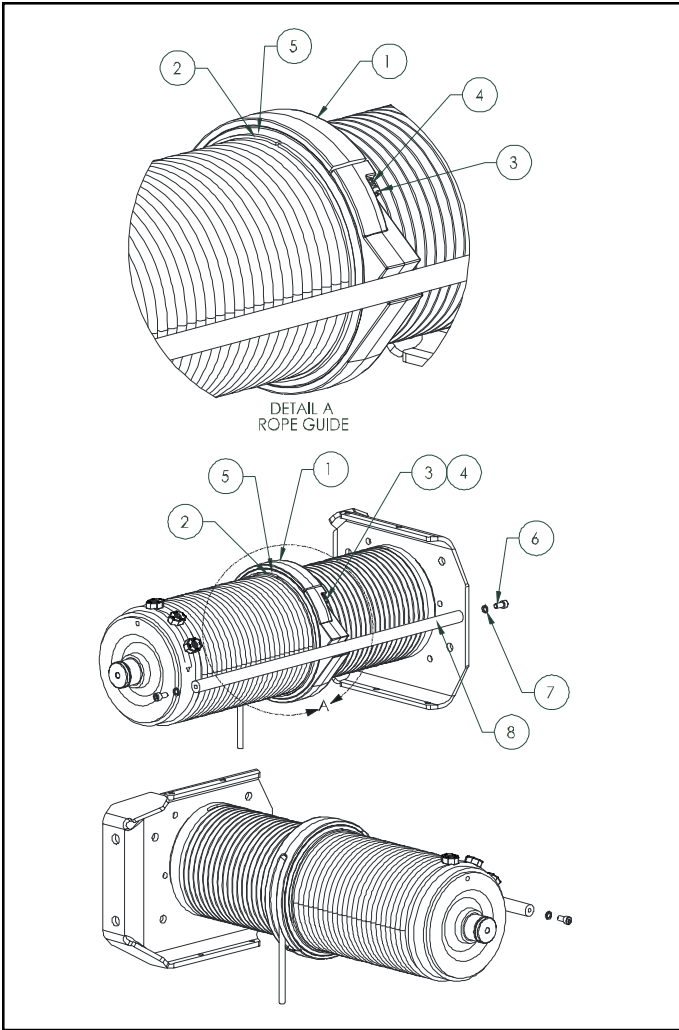

Figure 5-3a. Rope Guide Assembly ('B' & 'C' Frame)
b) **Disassembly for "B" & "C" Frames.** Refer to Fig. 5-3a. For further assistance in locating components, refer to the parts list in Section IX.
- (1) Remove socket head cap screws and lock washers (Items 6 and 7). Remove drum frame rod (Item 8).
- (2) Remove shoulder bolts (Item 3) and compression springs (Item 4). The two halves of the rope guide body (Item 1) can now be pulled off the drum separately. When reassembling be sure that the half with the rope slot is on the top half of the drum.
- (1) Thread rope to drum from trolley frame side then secure with rope clamps as follows:
(2) With all personnel clear of hoist - TURN ON POWER.
(3) Operate hoist "UP" guiding six (6) wraps of new rope into drum grooves with gloved hand.
(4) Re-install rope guide over rope in rope drum grooves as shown in Figures 5-3a & 5-3b. and outlined in Section V, Paragraph 5-5. Continue lubricating as rope is spooled onto the drum until about 28'-0" remain unwound.